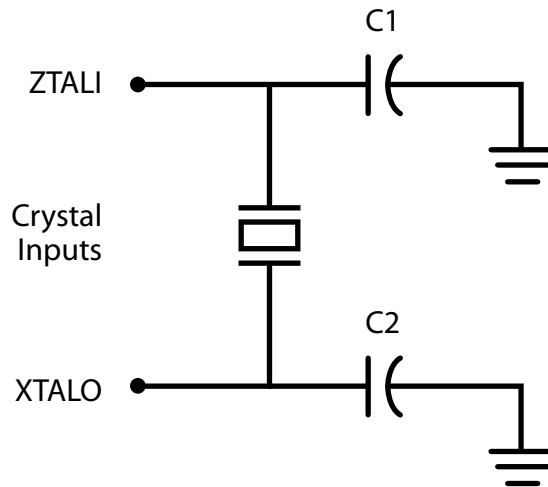

Figure 6. Crystal Connection
**Clock Oscillator/Driver Logic Unit.** A clock oscillator/driver is available that will allow the user to eliminate circuitry within a new design, or that can be used as another oscillator within the system. This logic will accept either a crystal ceramic resonator or TTL-compatible clock input and generate a MOS-compatible clock output and also an oscillator reference output. Zilog recommends a fundamental parallel resonant crystal; see Figure 6. The preferred value of the two capacitors C1 and C2 is 33 pF each.